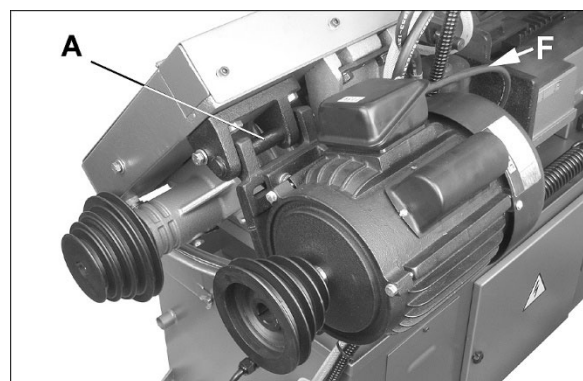

Figure 5-2: motor installation
- 2. Remove nut and washer from motor support shaft, and slide out support shaft (A, Figure 5-2).
- Insert motor cable (see F, Figure 5-2) through strain relief and connect the leads inside the box. Make sure the grounding wire is properly connected.